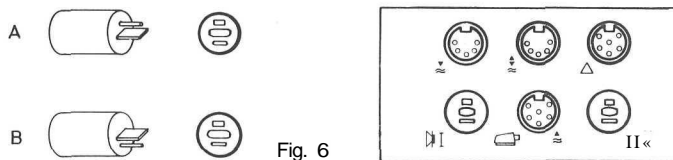

Fig. 6
2.3 Phono Input \sphericalangle (Fig. 6)
2.4 Radio/Phono I Input/Output (Fig. 6)
2.5 Remote Control Socket A (Fig. 6)
2.6 Slide Projector Socket (Fig. 6)
2.7 Left Loudspeaker Output I (Fig. 6)
2.8 Right Loudspeaker Output II (Fig. 6)